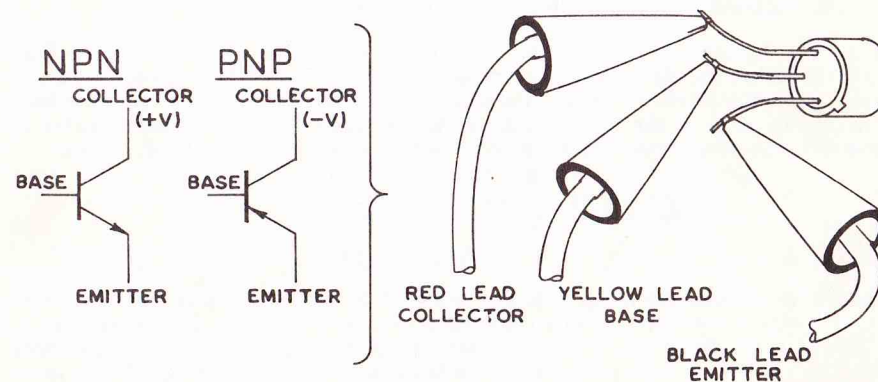

Figure 3. Connecting To A Transistor For In-Circuit And Out Of Circuit Testing
1. Connect the E, B, and C test leads to the transistor as shown in figure 3 or 4.